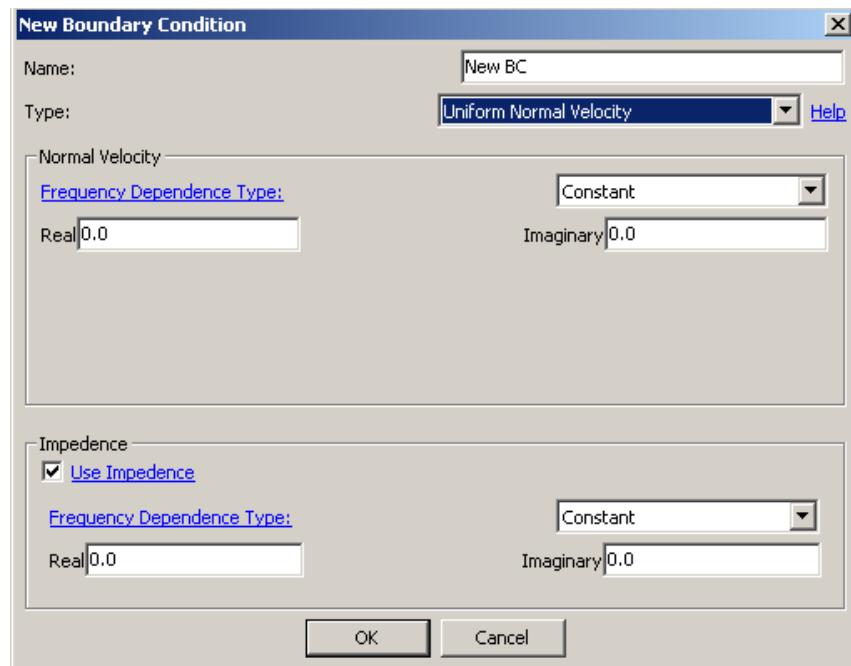

Figure 6.17 Uniform Normal Velocity BC.
This Boundary Condition is applied on the element where the normal velocity is uniformly distributed. There is no variation of normal velocity with position over an element. However, it can be defined to be dependent on frequency. (Figure 6.17.) The normal velocity values can be specified by selecting any of the frequency dependence types: *Constant*, *Table*, or *Script*. The user should be aware that the normal velocity defined here is in the direction of the *domain normal* (Figure 6.11). When *Use Impedance* option is disabled, the *Normal Velocity* defined in this boundary condition (BC) is considered to be the particle normal velocity (v_{ni}). (Figure 6.17)
6.5.5.1. Use Impedance When this option is enabled, the *Normal Velocity* defined in this Boundary Condition is considered to be the wall velocity (v_{n_wall}). The impedance (Z) relates the pressure (p) at the surface of the acoustic material to the particle normal velocity (v_{ni}) at the surface. Refer Section 6 for the definition of impedance implemented in *Coustyx*. The impedance value is defined by selecting any of the frequency dependent types: *Constant*, *Table*, or *Script*.